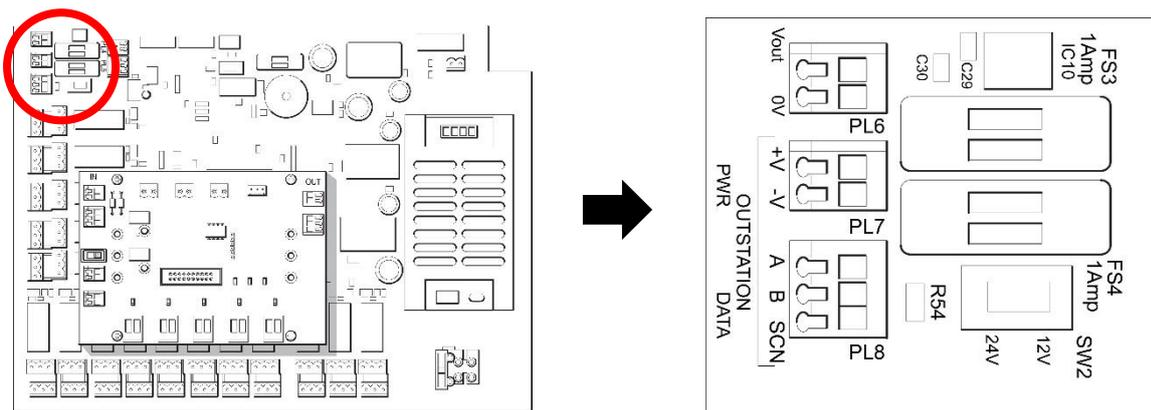

Figure 12: Using the 12/14 Output to Power an Ancillary Device
1. Ensure that the unit is powered OFF. Use the voltage selector switch SW2 (Figure 12) to set the output to the correct voltage for your device.
2. Connect your device to the 12/24V output (Figure 12).